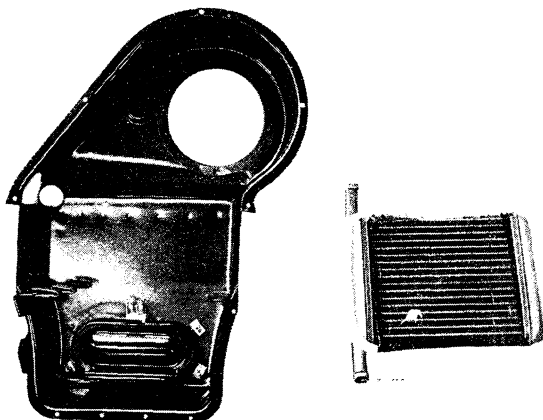

Fig. 8-52. Cell system taken out
3. Lift out the cell system (Fig. 8-52).